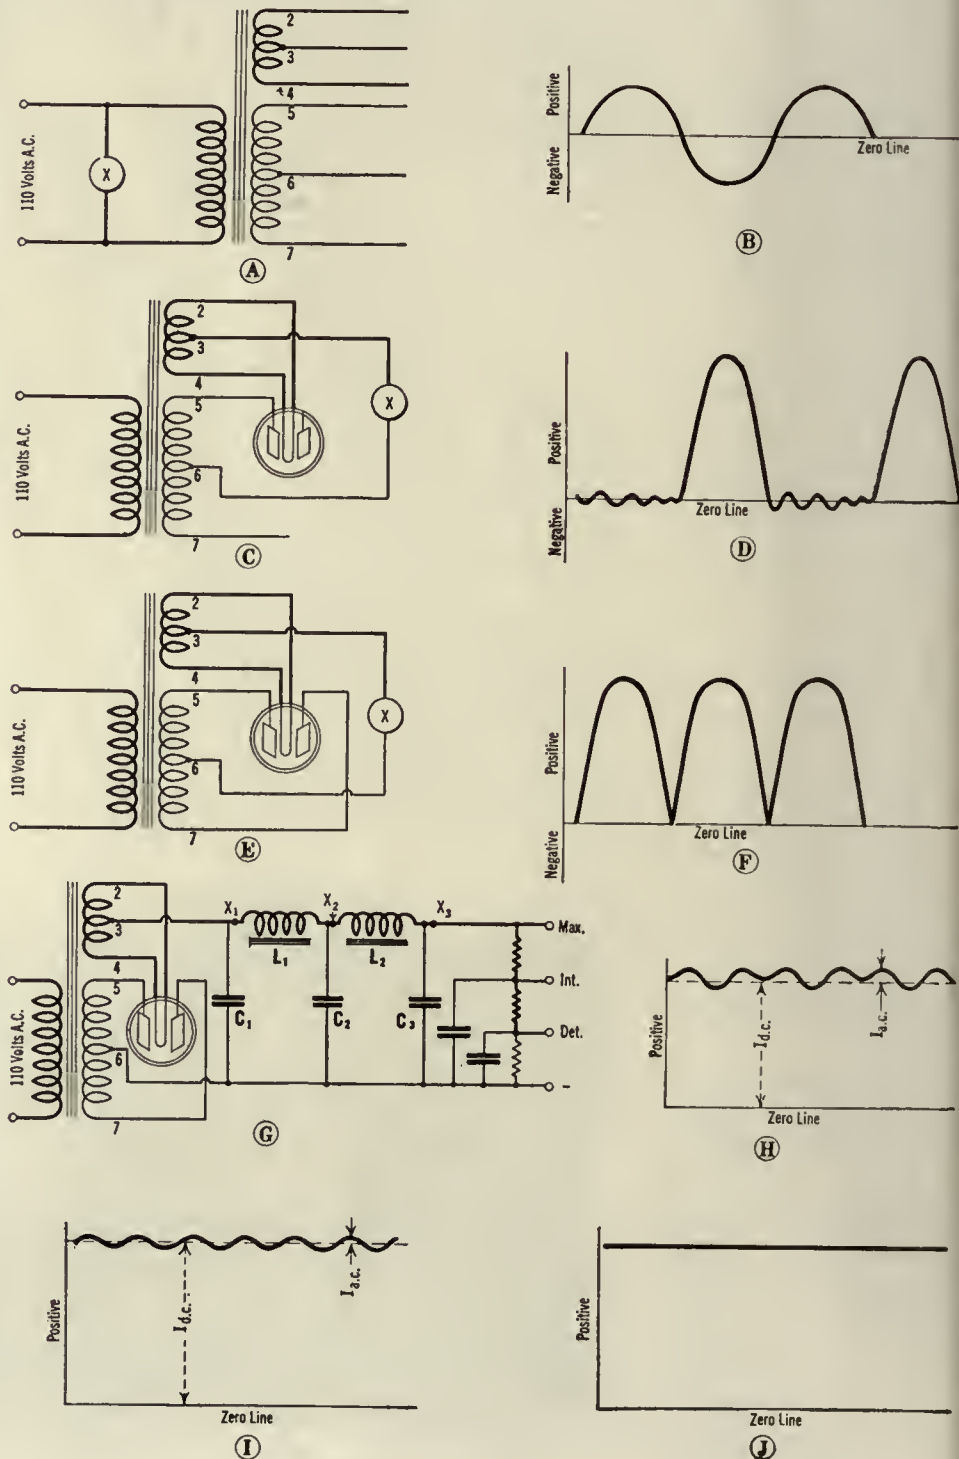

FIG. 1
In analyzing the a. c. line voltage at the input of the power device, the oscillograph, indicated by the circle with an "X" in it in Fig. 1, was connected across the primary of the transformer of the B power unit, as shown at "A," and at "B" is a copy of the picture that was seen. The line marked "zero" indicates the position of the vibrator when there is no voltage applied. The voltage starts at zero, rises to a maximum in one direction, decreases to zero, and rises to a maximum in the opposite direction, decreases to zero, and then starts the same cycle over again. The voltage across the secondary of the transformer has the same form but it is larger.
Across the secondary of the transformer we have a high a. c. voltage and the next thing to do is to change it to d. c. In the particular unit we are working with, this is accomplished with a cx-313 double-wave rectifier tube. This rectifier has two plates and two paralleled filaments so that both the halves of the wave—above and below the zero line in "B"—can be utilized. The cx-313 tube was arranged as shown at "C" in Fig. 1, only one of the plates being connected, and the oscillograph was connected as indicated. We now get a wave as shown in Fig. 1 at "D." Notice that we get a current through the circuit for each positive half of the a. c. voltage but nothing during the negative half, because the rectifier will only conduct current when the plate is positive, while during the half cycle when the plate is negative, no conduction occurs. If we connect
the other plate, as shown in "E," we will be able to take advantage of each half wave because, during the half cycle when terminal No. 5 of the transformer is negative, terminal No. 7 is positive, and thus, during the half cycle when no conduction is taking place from terminal No. 5, there will be current flowing at terminal No. 7. Consequently, we get a wave form in the oscillograph as shown in diagram "F" of Fig. 1. Now, for each half cycle of the original a. c. voltage shown in "B," we get a corresponding impulse in the oscillograph. But because of the rectifying action of the tube, which will conduct current only one way, all the impulses shown in "F" are in the same direction. We now have a circuit in which the current flows in only one direction, and this is the essential characteristic of a direct current. But, although the current is unidirectional, it is pulsating; that is, it goes from zero to its maximum value and then drops to zero again, and then repeats the same thing over again. Such direct current is not suitable for application to radio purposes for it must be perfectly constant for this use.
**T**HIS brings us to the third part of a B power unit—the filter. In Fig. 1, at "G," we have added a filter to the output of the rectifier. The filter consists of choke coils  $L_1$  and  $L_2$  and condensers  $C_1$ ,  $C_2$ , and  $C_3$ . The function of the choke coils is to block any sudden changes in current while the function of the condensers is to act as storage tanks or reservoirs. Energy is delivered to the filter in the form shown in "F" and the filter serves to smooth out these impulses and to allow non fluctuating direct current to be drawn from its output. The oscillograph was first connected at  $X_1$ , and the curve obtained is shown at "H." Here we notice a great change.
To obtain the various voltages it is necessary to equip the device with an output potentiometer, which merely consists of a resistance, or several resistances, connected in series across the output, as will be seen in drawing "G," Fig. 1. This circuit diagram is similar to many power units in use to-day. It has one important disadvantage, which is that the voltage obtained from the various terminals depends upon the load. If one tube is supplied from the tap marked 90-volts it might really receive 110 volts, two tubes 90 volts, and three tubes only 70 volts, and so on. This is one important respect in which a B power unit differs from a dry battery. From a battery we obtain the same voltage at all reasonable loads, but from an ordinary power unit we obtain voltages that depend on the milliampere drain.